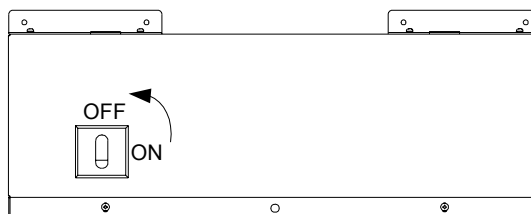
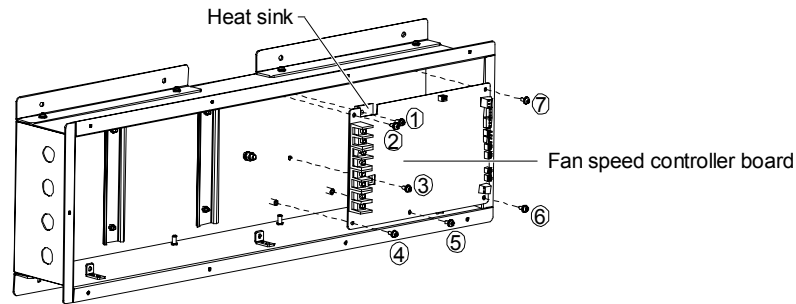

Figure 4-1 Fan speed controller board
Figure 4-2 Removing the fan speed controller board
Check that the fan speed controller board operates normally. If not, replace it. The board is installed inside the electrical control box. Refer to Figure 4-2 for assembling. Rotate the isolation switch to 'OFF', and then remove the cover plate of the electrical control box, as shown in Figure 4-1.
1. ~ in Figure 4-2 are seven bolts (M4 × 10). The bolt and bolt are used to fix the heat sink, others are used to fix the fan speed controller board.
2. Except for the seven bolts in Figure 4-2, other bolts are prohibited to remove.